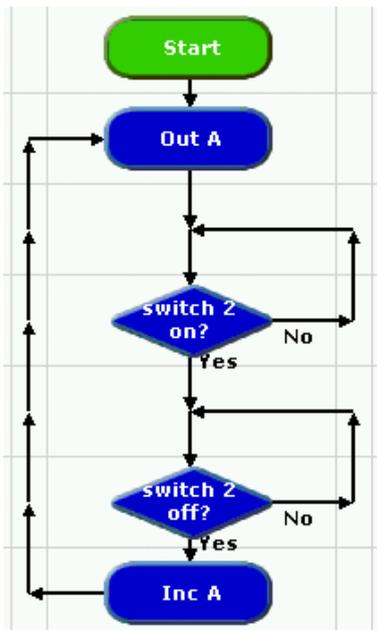

Fig 19. Counter with display but no memory.
The program shown in Fig 19 counts switch presses and displays the count in binary form using the LEDs on the T-board.
1. Build the program shown in Fig 19. Test run it; then download it and try it in the T-board.